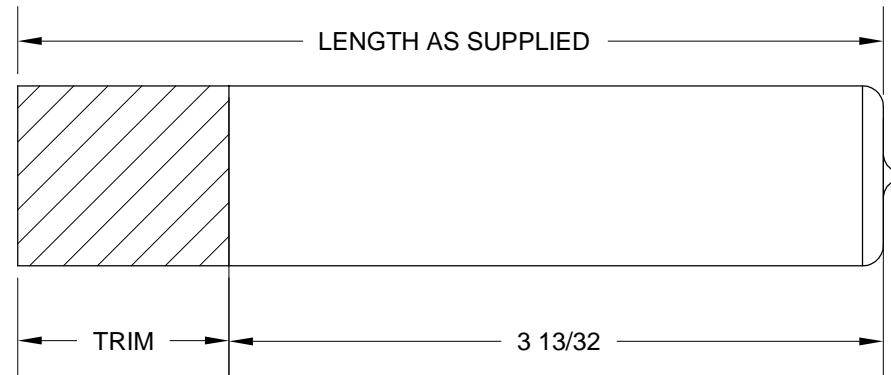

FIGURE 1: TRIM GRIPS TO LENGTH
Step 1: Trim the CA-00001F Rubber Hand Grips to length as shown in Figure 1.